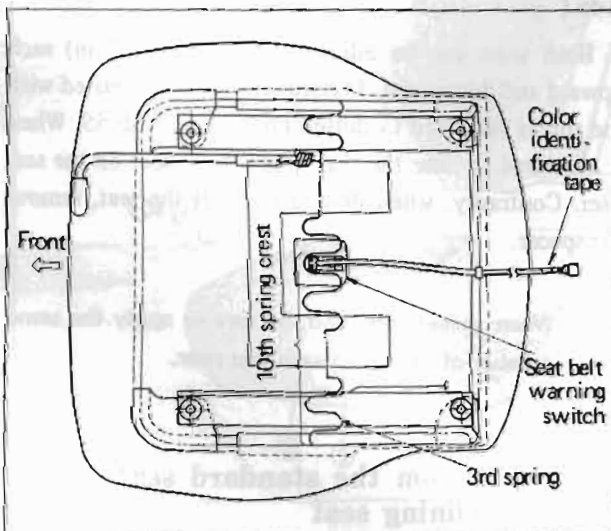

Fig. BF-56 Seat switch location
1. Seat switch should be installed in right position. See Figure BF-56.